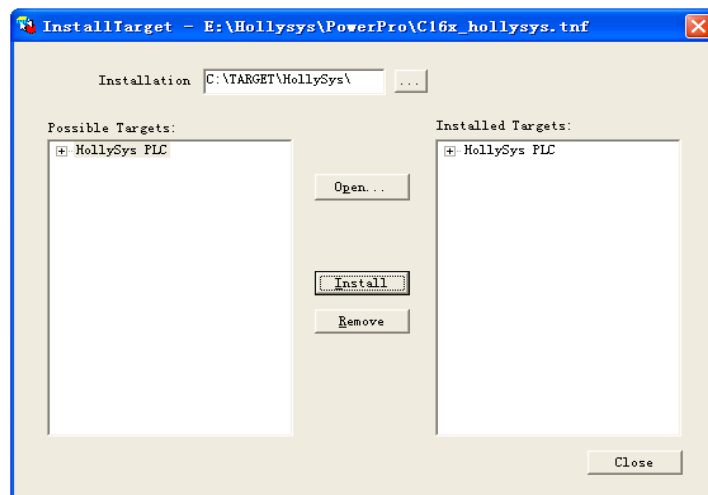

Figure 1-3-4 Install Target (4)
- Then the same target file “**Hollysys PLC**” is generated in the window of “**Installed Targets**” on the right of the “**InstallTarget**” window. Click “**Close**” button to end the installation, as shown in figure 1-3-4.